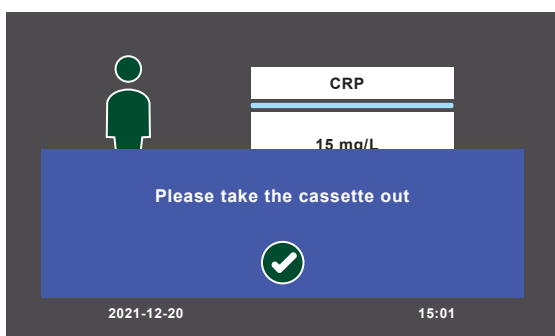

Figure 21. Pop up Message screen
- Once the measurement is completed, the analyte test result with the Patient ID will appear. See Figure 21.